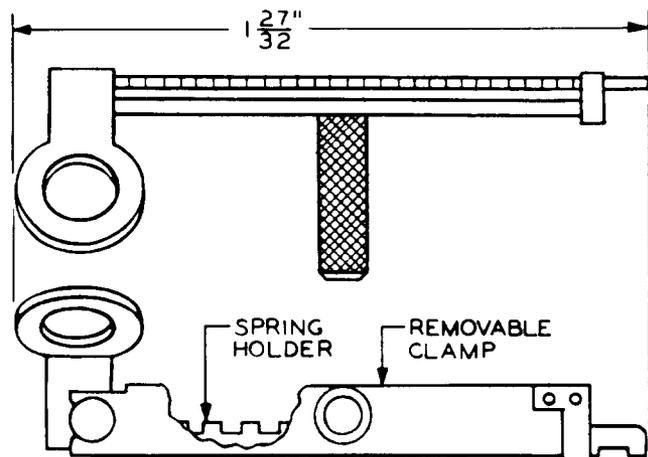

Fig. 13—630A Spring Holder Tool
2.14 **630A:** The 630A spring holder tool (Fig. 13) is slotted to engage the 12 movable springs on the left hand side of the fixed springs of the AF-, AG-, and AJ-type relays and is equipped with a clamp plate of insulating material. The 630A tool is used in conjunction with the 629A and B tools, in guiding the movable springs during removal of cards from the relays.